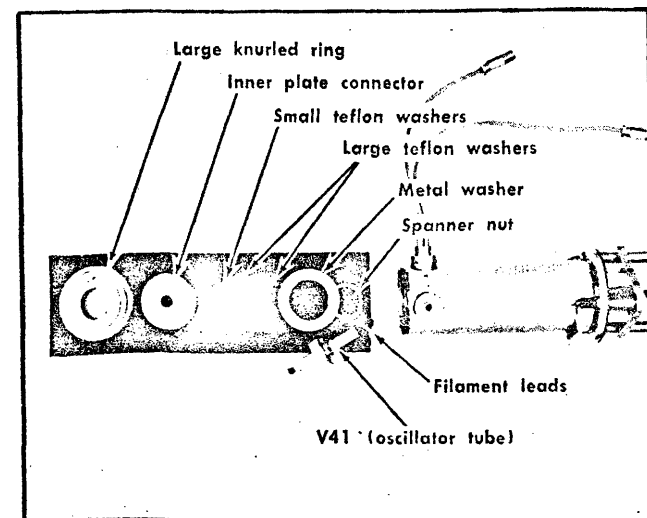

Fig. 4-4. Oscillator disassembled to show the sequence as the components are removed or installed.
2. Carefully, (by hand) unscrew and remove the large knurled ring on the rear portion of the oscillator assembly. See Fig. 4-4.
5. Unsolder the filament leads from the tube and reconnect the leads to the new tube. Do not unsolder the wires at the standoff insulators on the outside of the oscillator. The replacement tube should be an assembly containing the feedback block and wires. See Figs. 4-4 and 4-5.